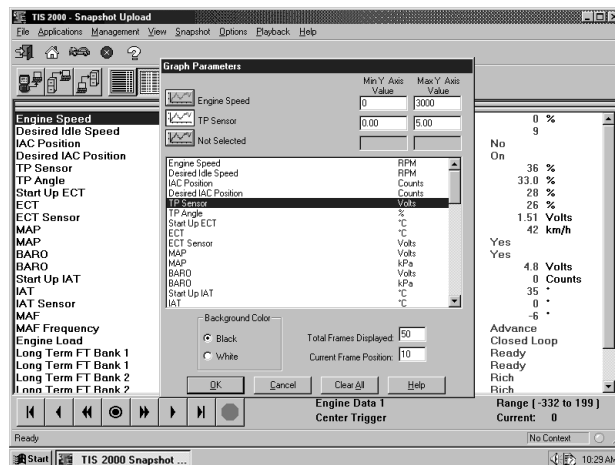

FIGURE 8-46. Graph Parameters Window
4. When a frame is reached for which there is no DTC, the message “No Diagnostic Troubles for this data frame” displays in the DTC window (Figure 8-46).